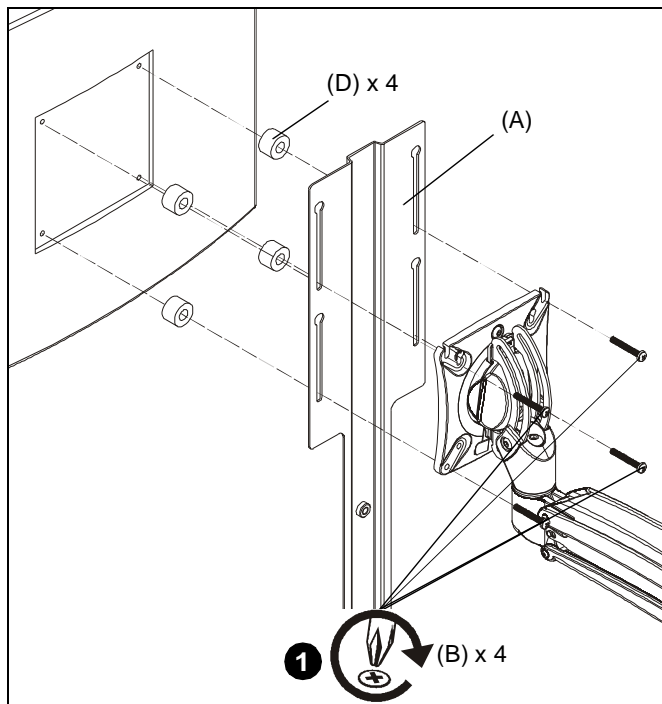

Figure 1
1. Use four M4 x 30mm Phillips pan machine screws (B) and four 1/2" spacers (D) to secure monitor arm and interface bracket (A) to back of monitor. (See Figure 1)